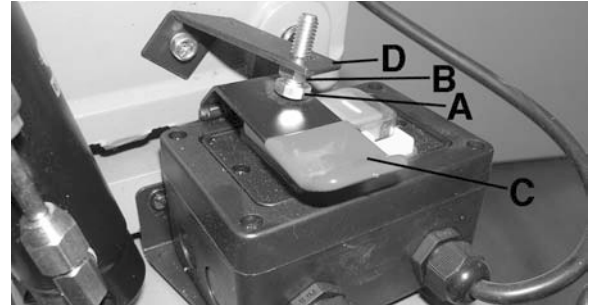

FIGURE 11
- 1) With the cutting head is completely in the down position, loosen stop bolt (A) Fig.11 and hex. nut (B).
- 2) Push down on the Off button lever (C) so that the Off button is completely depressed.
- 4) Tighten the hex. nut against the stop bolt bracket (D).